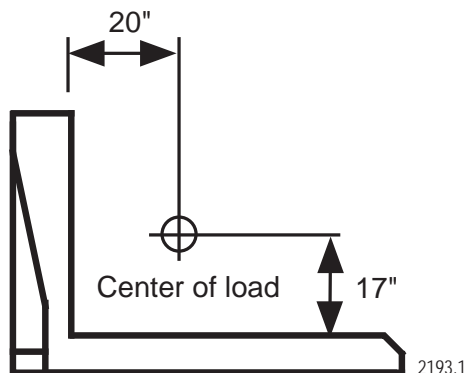

Fig. 5. Correct Load Center Ranges
**The tilt platform should always be pushed against the load. If the load is placed far out on the lifting arms, the unit may not be able to lift the full rated load safely. See Fig. 5.**